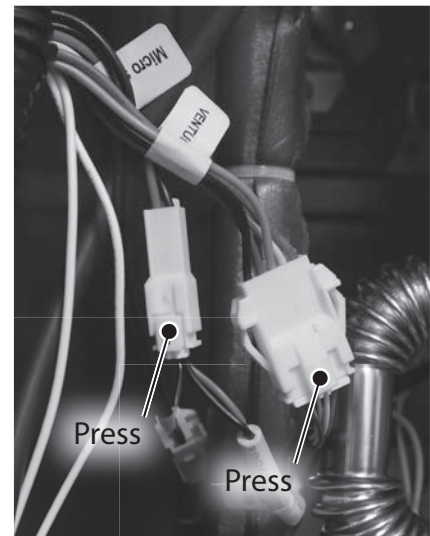

Figure 98 - Locate venturi wire harnesses
- 10** Locate the venturi wires (2x) and disconnect them as shown in Figure 98. Wires are labeled "Venturi" and "Micro Switch." These wires are connected at and run through the black cable conduit located on the left side of the water heater cabinet.